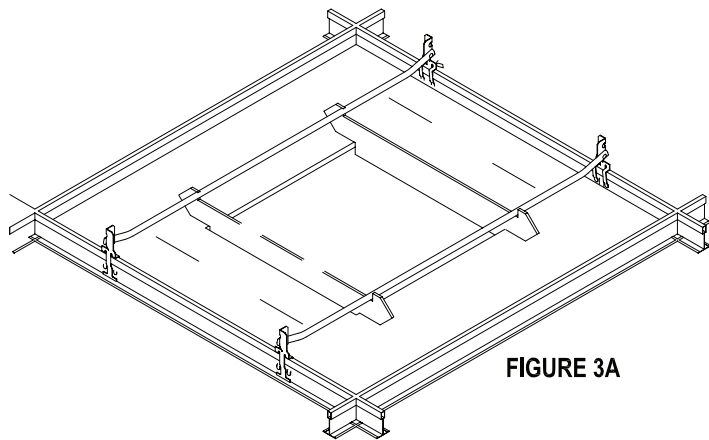

FIGURE 3A
3. USE INSIDE TEMPLATE FROM STEP 2 TO LOCATE (2) B-LINE BA12 OR EQUIVALENT "ELECTRICAL BOX TEE-BAR FASTENERS" (BY OTHERS) ON EACH SIDE OF LUMINAIRE OPENING AS SHOWN. (FIGURE 3A)